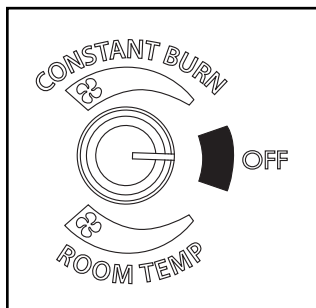

Figure 4.2
1. A room sensor is required for proper operation of this appliance in "Room Temp" mode. At this time, fill the hopper with pellets, insure the control is set to "OFF". Figure 4.2. Plug the power cord into a properly grounded, nearby outlet.